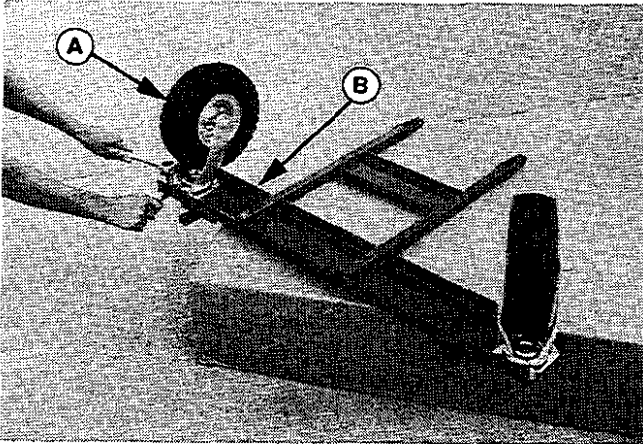
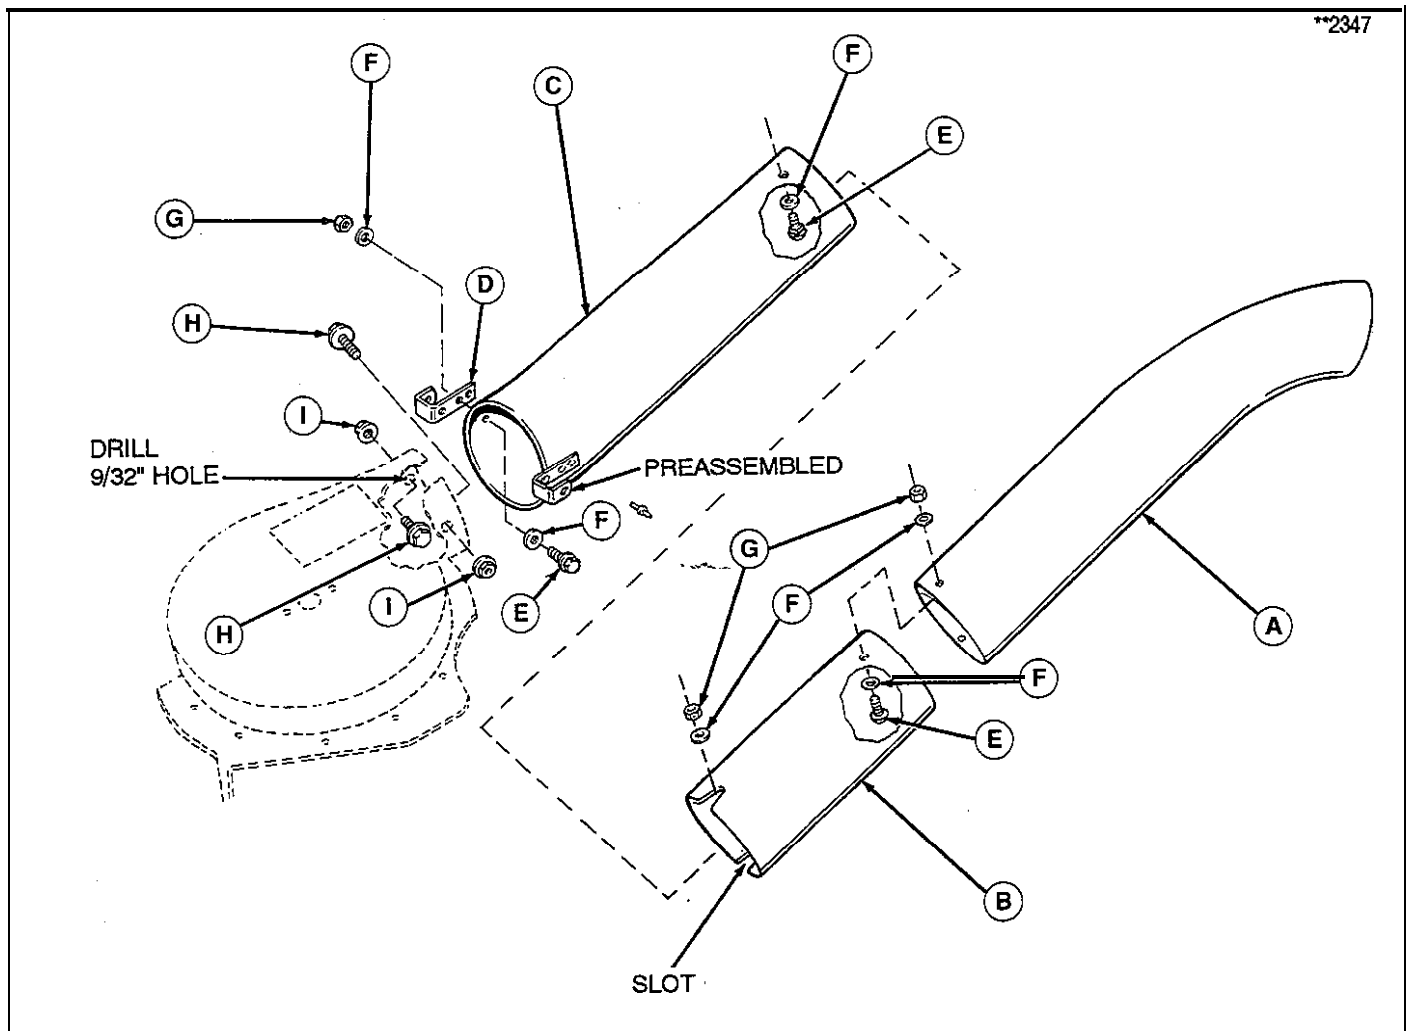

Figure 2
Figure 18
1. Install the wheel assemblies (A, figure 2) to the frame (B). Place the head of the swivel wheel on the end of the frame. Align the holes and place four $3/8-16 \times 1$ hex bolts up through the frame and head of the swivel. Secure with four flat washers ($13/32$ I.D., $7/8$ O.D.) and $3/8-16$ locknuts.
1. Install the spring clip (D, figure 18) with two 10-32 x 1/2 truss head screws (E), four flat washers (F), and two locknuts (G).
2. Install 1/4-20 x 5/8 carriage bolt (H) through hole in turbo housing. Secure with 1/4-20 flange locknut (I).
3. Position the lower tube (C) onto turbo housing and hook inside spring clip onto flange locknut (I, installed in step 2). Mark hole location on opposite side of turbo housing for outer spring clip.
4. Remove lower tube and drill 9/32 hole in turbo housing and install 1/4-20 x 5/8 carriage bolt (H) through hole. Secure with 1/4-20 flange locknut (I).
5. Assemble the upper tube (A) onto middle tube (B) as shown in figure 2 with two 1032 x 1/2 truss head screws (E), four flat washers (F), and two locknuts (G).
6. Install two 10-32 x 1/2 truss head screws (E), four flat washers (F), and two locknuts (G) to the top holes in the lower tube (C). Leave hardware loose.
7. Install upper tubes (A and B) to lower tube (C) and tighten hardware.
8. Install tube assembly into cart sleeve and onto turbo housing. Hook spring clips (D) onto flange locknuts (I) installed on turbo housing.